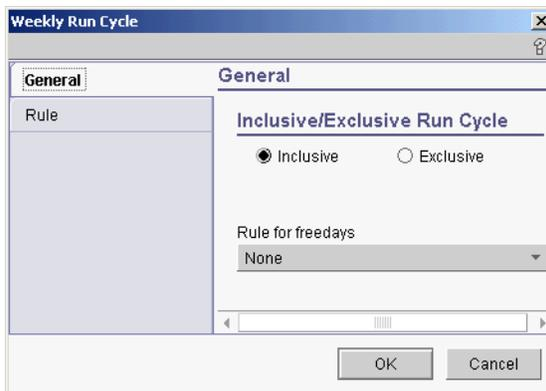

Figure D-14 Weekly Run Cycle
18. From the menu, select **Actions** → **Add** → **Weekly Run Cycle**. The Weekly Run Cycle window is displayed, as shown in Figure D-14.